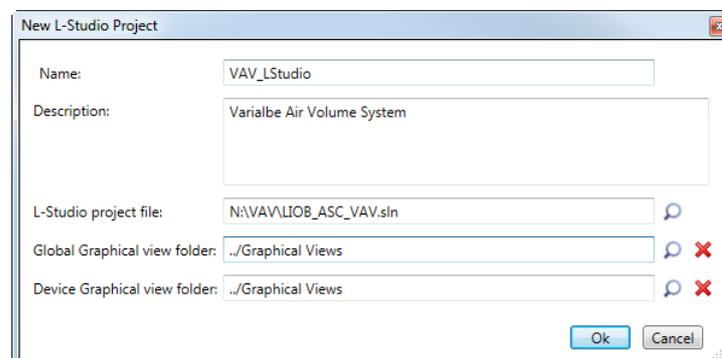

Figure 224: Add L-Studio Project
3. In the **New L-Studio Project** dialog (see Figure 224) enter the following data: